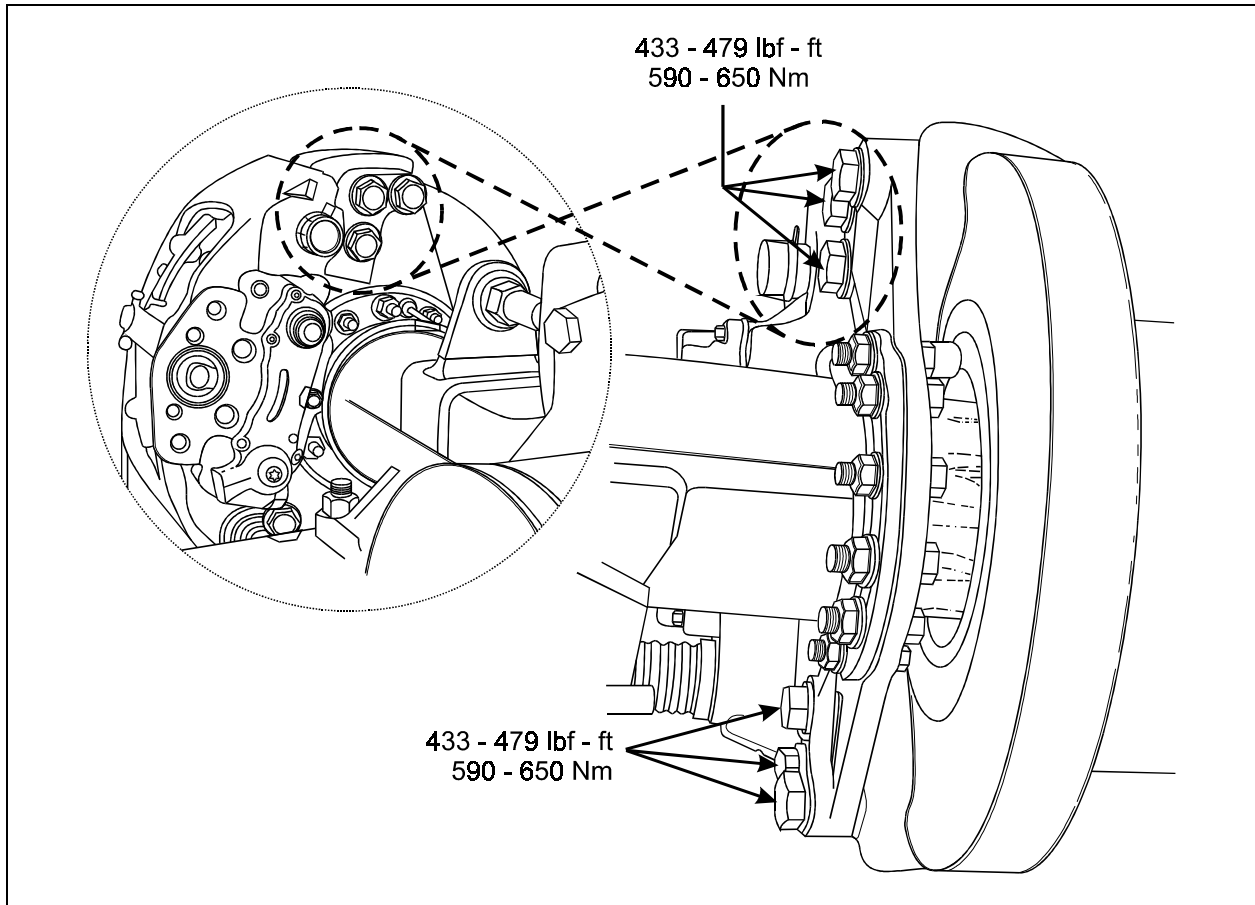

FIGURE 1: CALIPER BOLTS ON DRIVE AXLE
2. Locate the bolts to verify, there are 6 bolts on each end of the drive axle (refer to figure 1 for location);
3. Using a torque wrench, tighten the bolts identified in figure 1 to a dry torque of 433 - 479 lbf-ft (590 - 650 Nm);